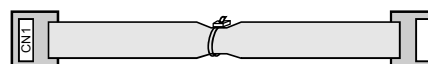

Fig. 1-3
- Electric Variable Resistor (E.V.R.) Adjustment Kit (Part No. : YWV0EA0182AN) as shown in Fig. 1-3.